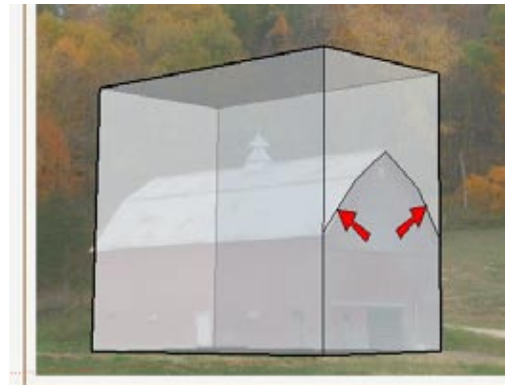

Figure 9-56
11. Trace the roof lines on the front face (Figure 9-56).